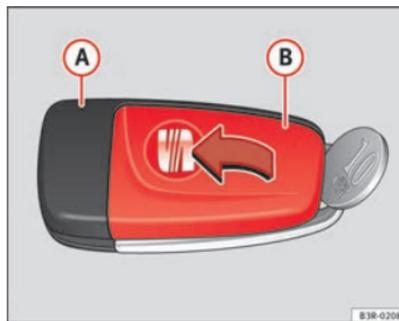

Fig. 70 Master key: Opening the cover
- **Carefully** prise apart the key ⇒ Fig. 70 (A) and the cover (B) using a coin.